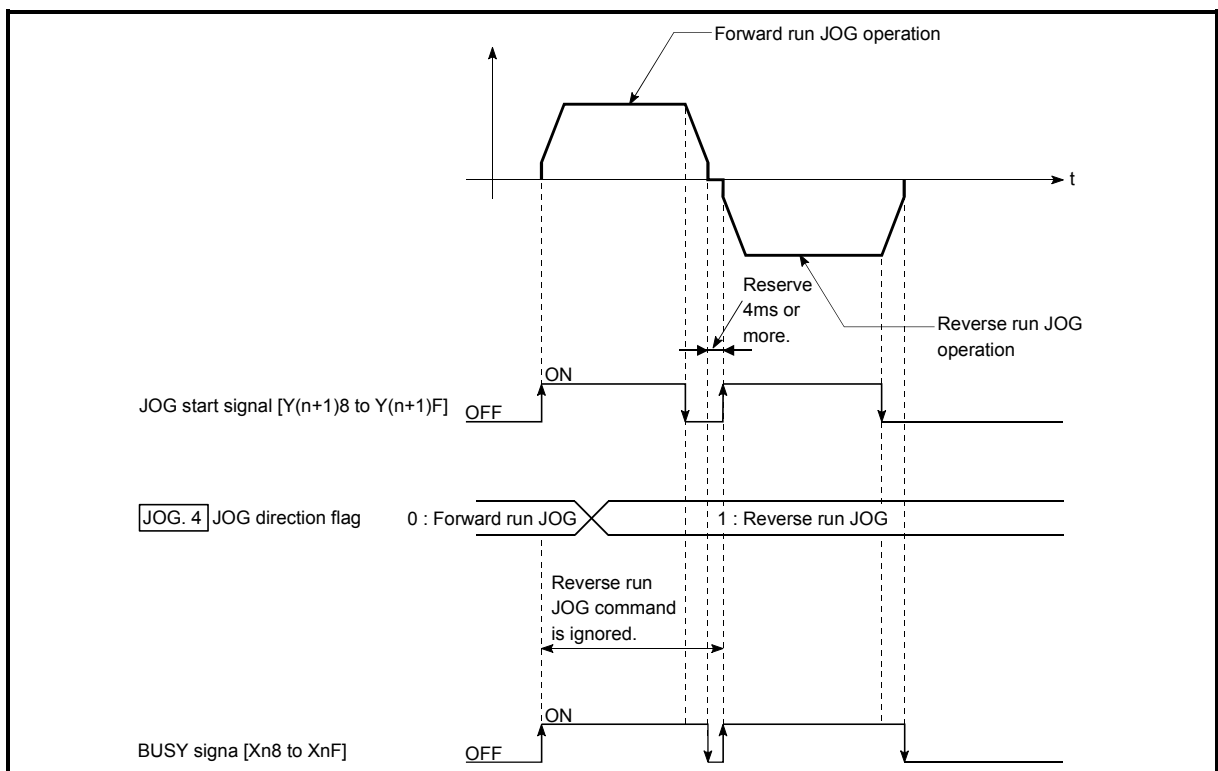

Fig. 10.3 Operation performed when JOG direction flag is changed to reverse run JOG command during forward run JOG operation
- When switching between forward run and reverse run, reserve at least 4ms as the time to turn the JOG start signal from OFF to ON. (Refer to Fig. 10.3.)
- (3) When the "JOG start signal" is turned ON again during deceleration caused by the ON → OFF of the "JOG start signal"